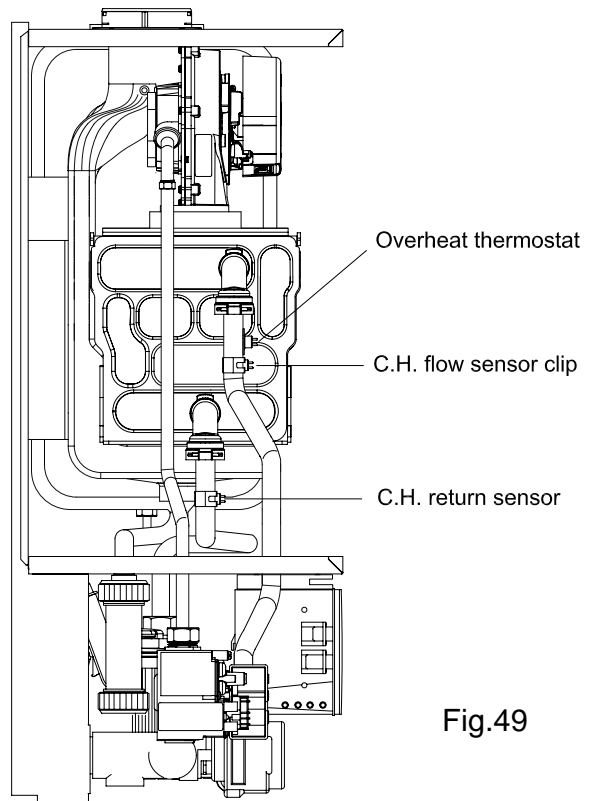

Fig.49
8.20 TO REMOVE/REPLACE C.H. FLOW AND RETURN SENSORS (Fig. 49)